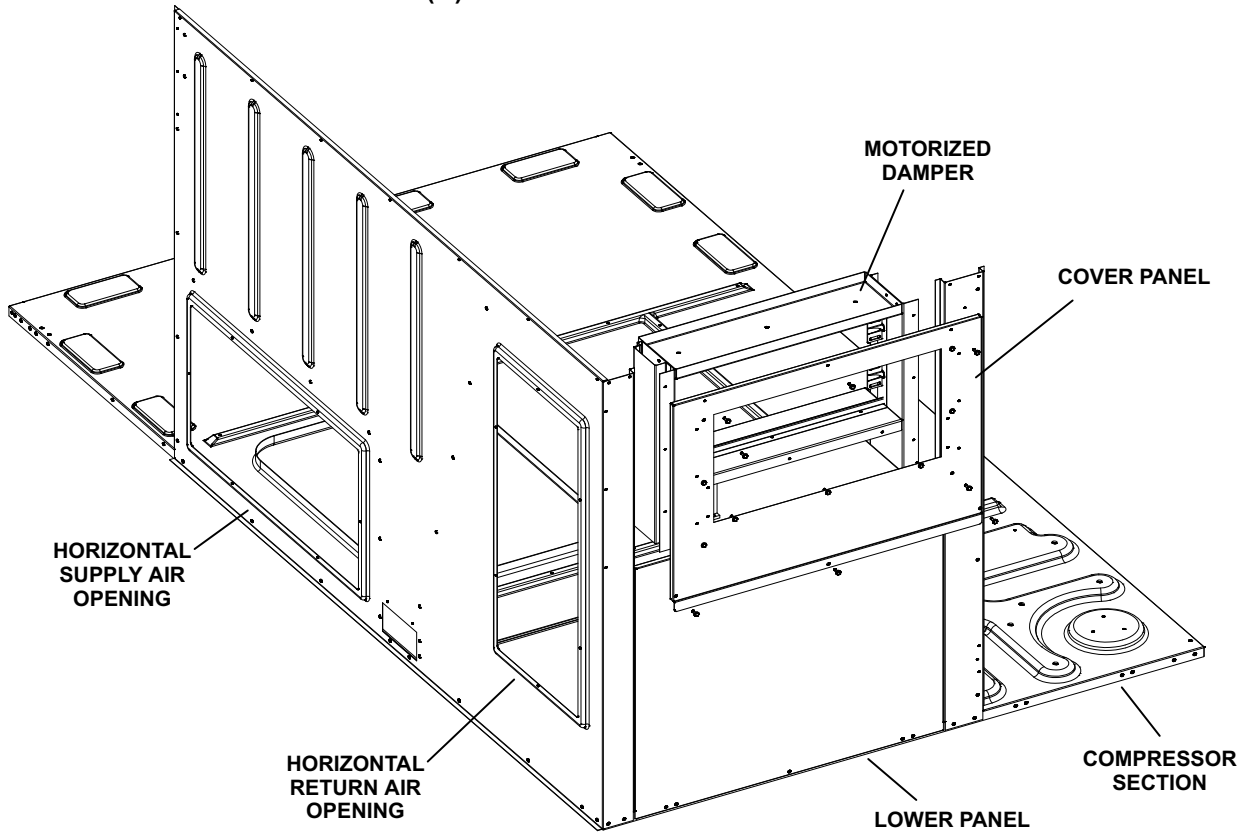

FIGURE 42
LAOD(M) consists of a set of dampers which may be manually or motor (M) operated to allow up to 25 percent outside air into the system at all times (see figure 42 or 43). Either air damper can be installed in LGH units. Washable filter supplied with the outdoor air dampers can be cleaned with water and a mild detergent. It should be sprayed with Filter Handicoater when dry prior to re-installation.